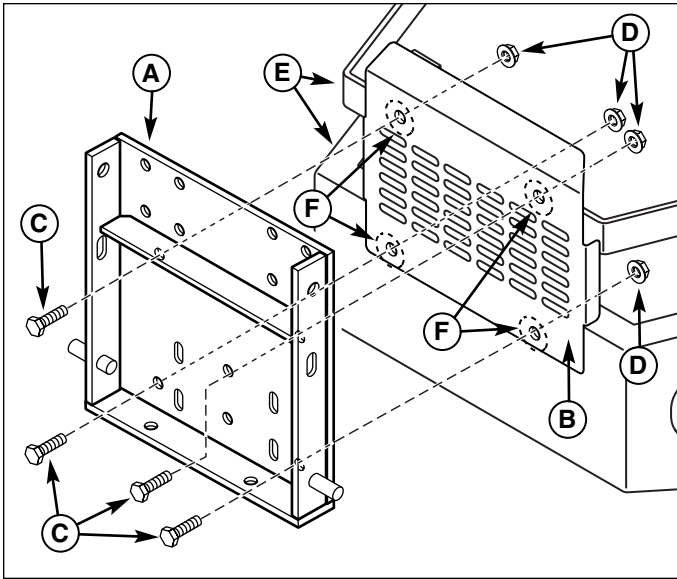

Figure 13. Install Hitch Plate (Flat Style Bumper)
1. Remove and discard hardware holding heat shield (B, Figure 13) to upper and lower bumper (E).
2. Open existing holes (F) in heat shield (B) and upper & lower bumper (E) to 17/32".
3. Install hitch plate (A) to upper and lower bumper (E) keeping heat shield (B) in between. Secure with capscrews (C) and locknuts (D).